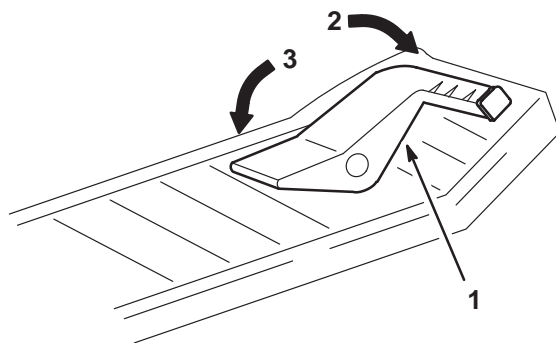

Figure 13
- Place your foot on the ground speed pedal (Fig. 13) and slowly press on the top of the pedal to move forward or on the bottom of the pedal to move backward.